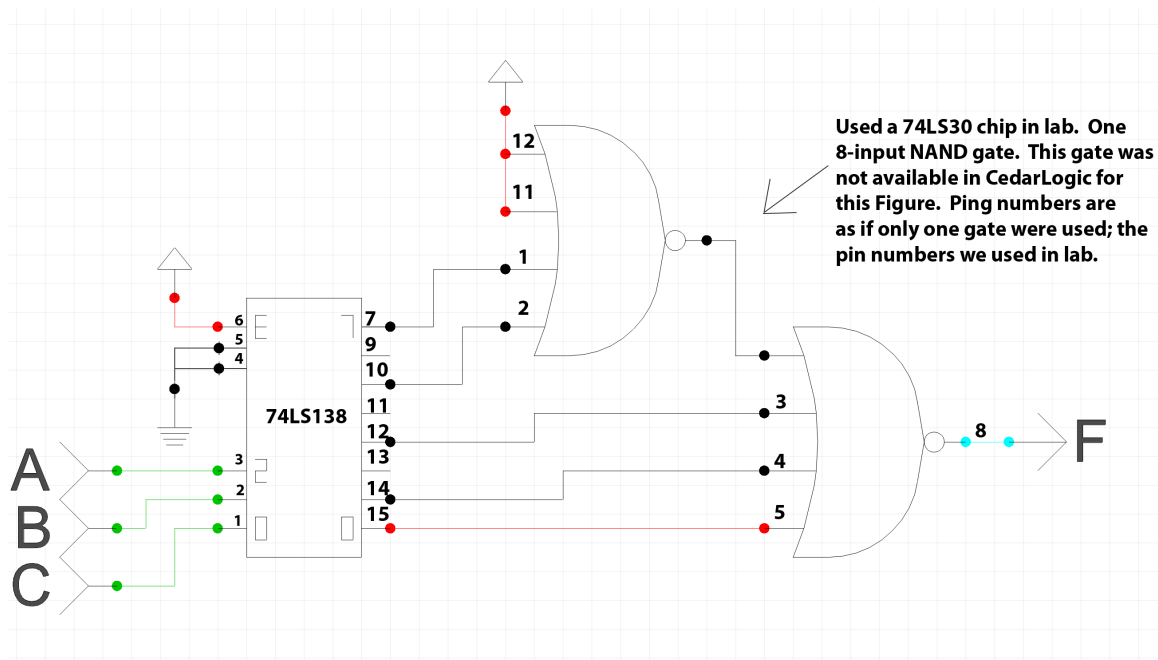
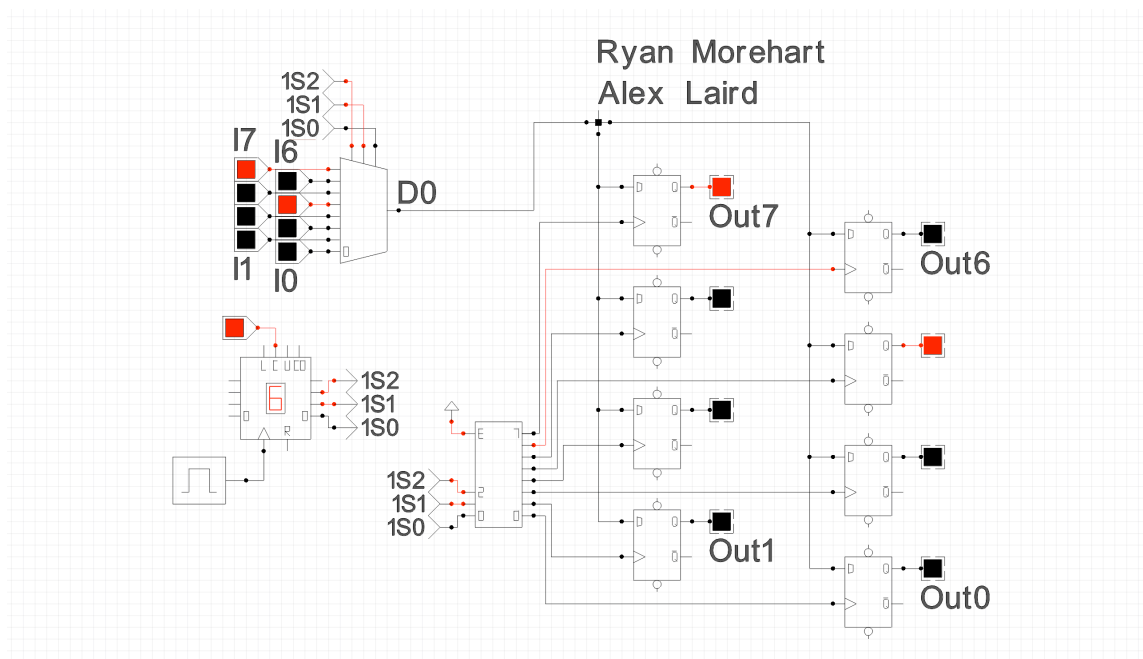
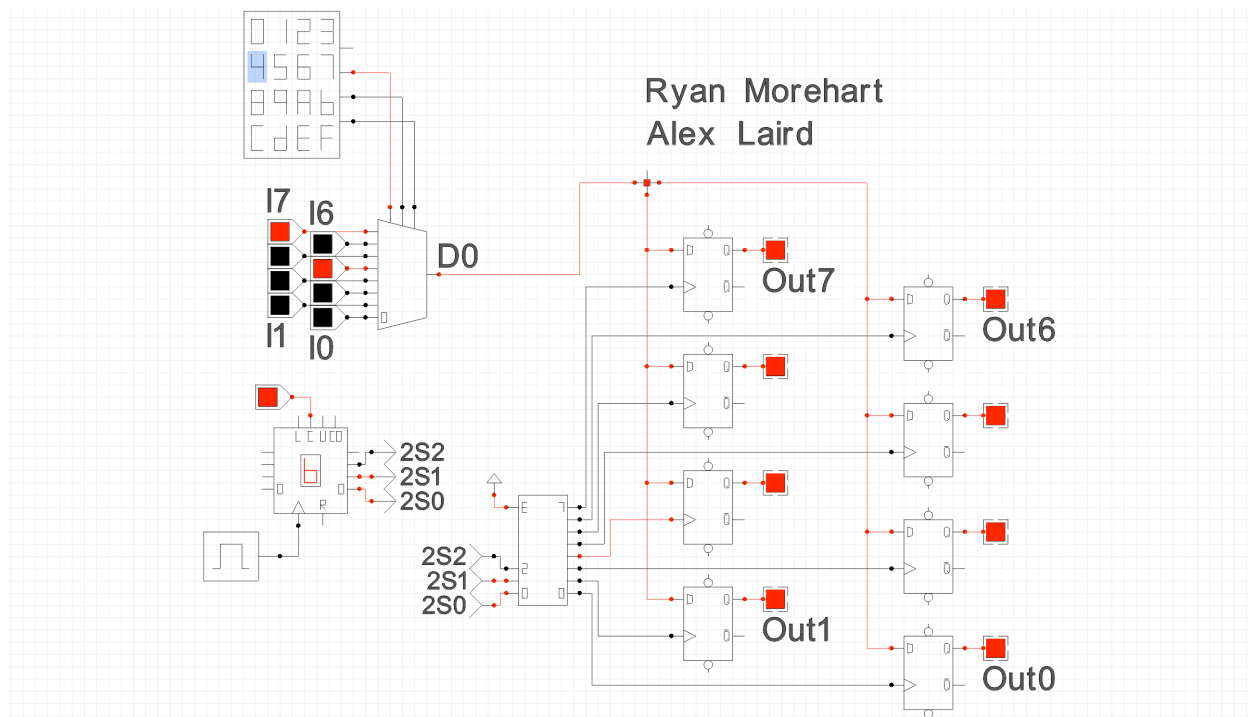
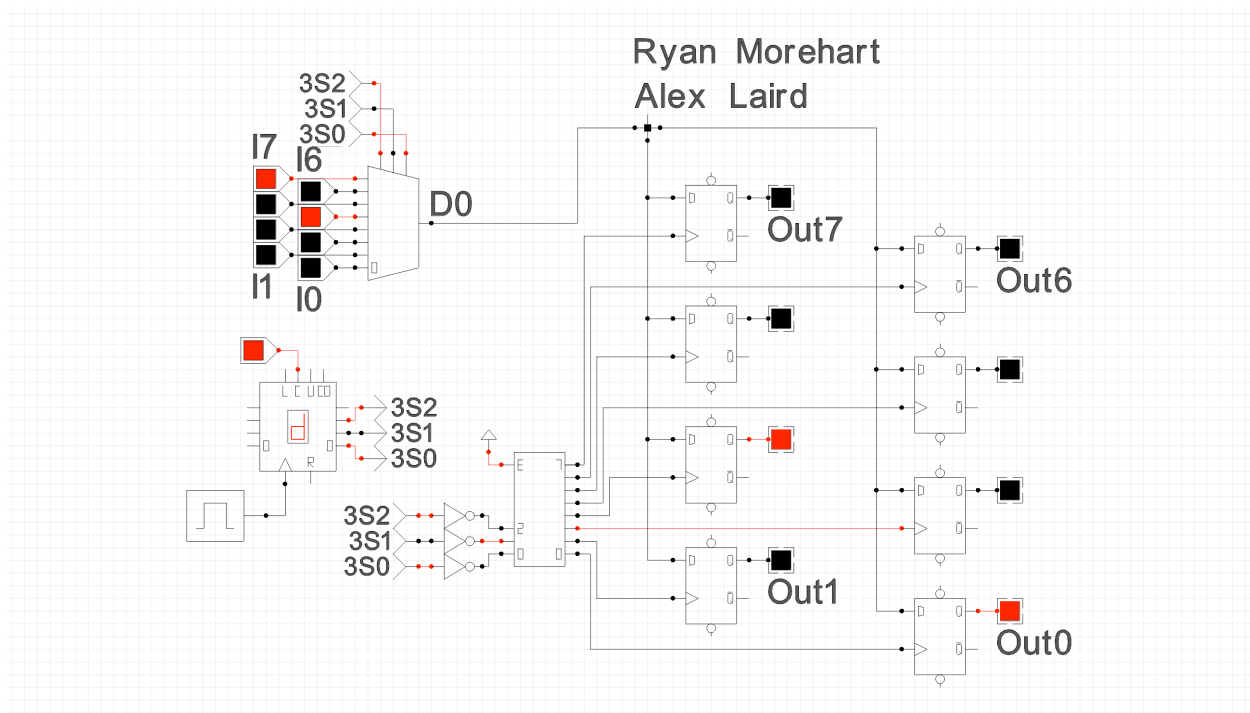

Figure 1: Schematic for Low Active Three (3) to Eight (8) Decoder
Figure 2: Schematic of Latched Time Division Multiplexed Communication Channel
Figure 3: Latched Time Division Multiplexed Communication Channel Implemented with Keypad for Select Lines
Figure 4: Latched Time Division Multiplexed Communication Channel Mapped to Opposite
In the Pre Lab, we created the schematics shown in Figure 1 and Figure 2.
In lab, we implemented Figure 1 on the CADET II Logic Trainer Boards in manner described below.
Since we had already completed the Latched Time Division Multiplex Communication Channel, shown in Figure 2, as part of the Pre Lab, we got the instructors approval for this circuit and moved onto other implementations of it.
Figure 2, Figure 3, and Figure 4 all have similarities in their outputs. Figure 2 and Figure 3, given the same input, will produce the same output. Figure 4 will produce the opposite output; that is, the inputs are mapped to the opposite outputs as from the previous Figures. This outcome is achieved simply by inverting the selection lines on the Decoder.
The basic principle of these three Figures is that, given some active binary bits from the Mux, those outputs will be activated as the next clock cycle is reached for that Flip Flop. Except in the Figure 4, in which the opposite outputs are activated.
The Keypad in Figure 3 doesn't do much except allow you to control which select lines are active at a given time.
- II. If a communication channel similar to Figure 2 was expanded to accept 64 inputs and communicate to 64 outputs, how many data line(s) and control line(s) would be needed? 1 data line(s); 6 control lines
- III. In a paragraph, give a detailed description of how the circuit to Figure 2 (a latched Time Division Multiplexed Communication Channel) works. Explain in detail how the values of the Input switches I0-I7 are one at a time sent through the Mux, onto Data Lines (D0) then capture by the corresponding Flip Flop O0-O7 due to the Decoders operation at just the right time.